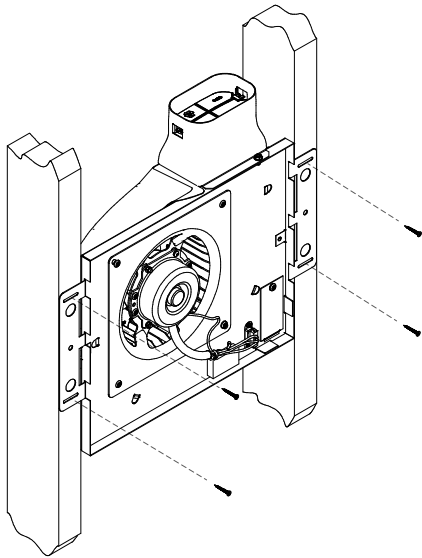

Figure 5
- b. Fasten fan to studs using screws (supplied by others) as shown in Figure 5.